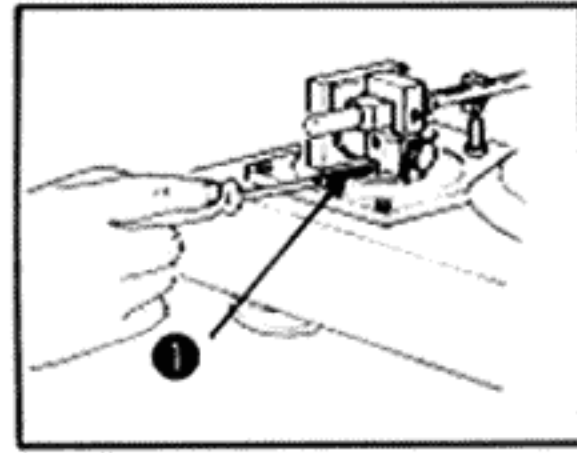

Fig. 1
1. Unpacking and setting up (Figs. 1, 2, 3, 4)
2. Unscrew 7 shipping screws (❶ - ❷) off as shown in Fig. 1 & 3.